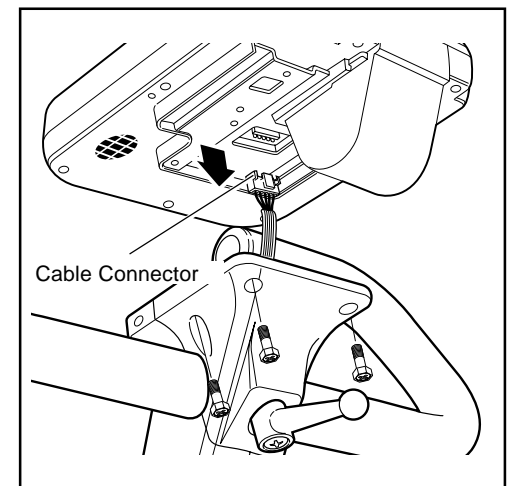

Fig. 2
1. When the AC adapter is found to be correct, proceed to checking of wiring within the frame. Loosen the four screws on the handlebar stem to remove the control unit. (Fig. 2)
2. Remove the 5P cable which is connected to the back of the control unit. (Fig. 2)